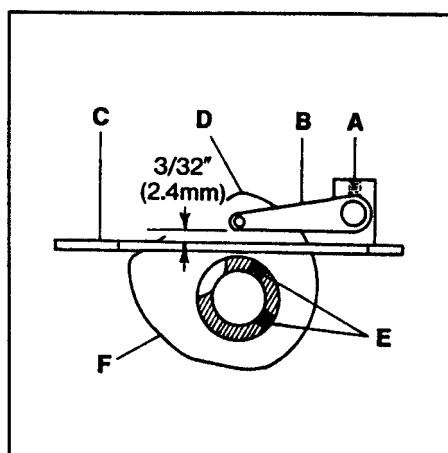

FIG. 35
Loosen screw (A, Fig. 35) and set the lower edge of cover thread take-up eyelet (B) so its  $3/32$ " (2.4mm) above the surface of cast-off plate (C). Tighten screw (A). As the cover thread hook moves to the left over the cover thread and the needle bar starts to rise, the cover thread must "cast-off" from the high point of take-up (D). Loosen screws (E) and adjust take-up (F) accordingly. make sure that take-up (F) is centered in cast-off plate slot (C) and take-up eyelet (B) is centered to take-up (F). Tighten screws (E).